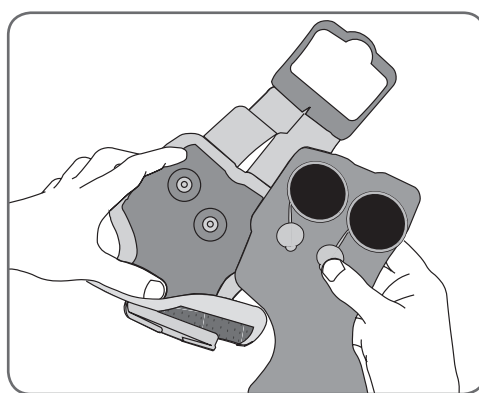

Figure 8-46: Removing the personal panel from the L300 FS Cuff.
1. If the L300 FS Cuff is for clinic use, remove the patient's personal strap cover and personal panel, with the L300 electrode(s) and electrode bases attached, from the L300 FS Cuff. See Figure 8-46. Store the personal panel and personal strap cover in the Personal Panel Storage System until the patient's next session.